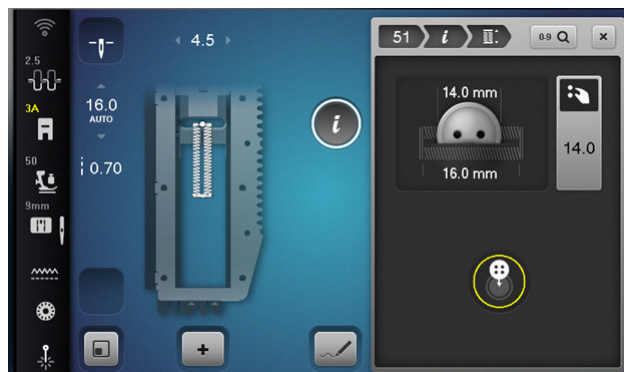

Fig. 19: B 790 Display Screen
3.  Select the On-screen Button Measuring icon (Fig. 19).